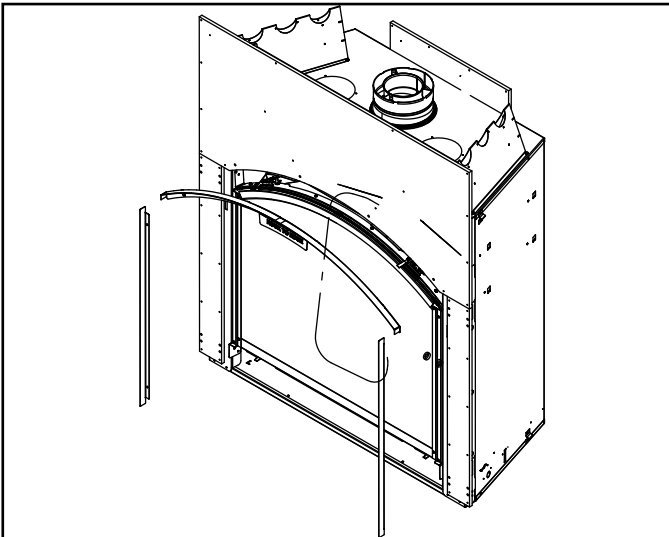

Figure 10.7 Top and Arch Finishing Pieces Assembled
4. Attach the arch trim finishing template, as well as both side finishing template pieces, to the appliance over top of the non-combustible board using the hole locations shown in Figure 10.7. Use the provided self tapping screws found in the manual bag to attach the template pieces.